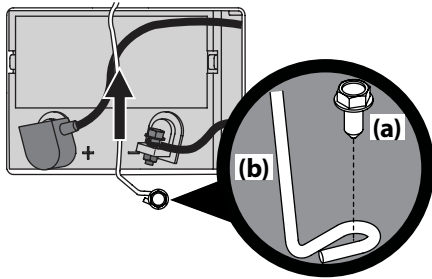

Figure 4-8
1. Remove the hex washer screw (a) securing the battery hold-down bracket (b) to the frame. Then flip the battery hold-down bracket (b) up to free the battery. See Figure 4-8.